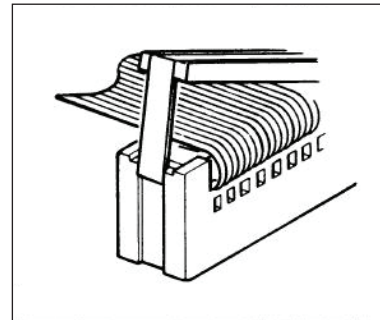

Figure 6
- 6.3 Push down on opposite end until strain relief snaps into place. (Figure 6)